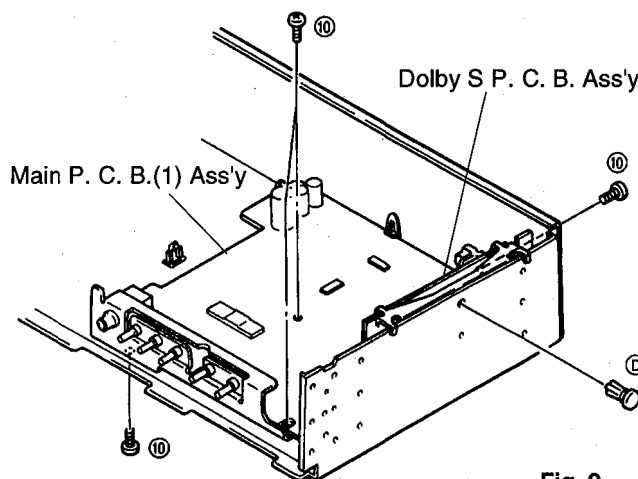

Fig. 9
**9. Removal of Main P. C. B.(1) Ass'y and Dolby S P. C. B. Ass'y**
- a. Remove 4 screws (⑩) and 1 plastic rivet (ⓑ) in Fig. 9.